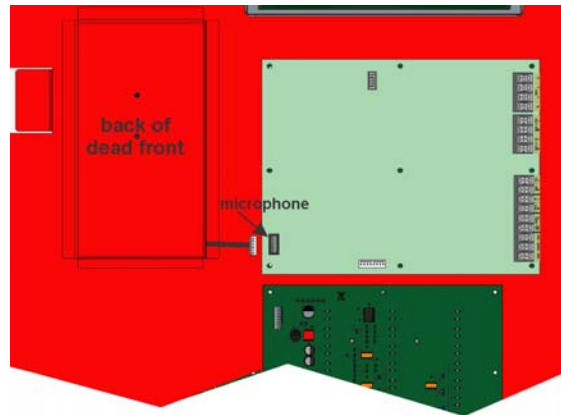

Figure 7 Microphone Cord Inserted Through the Dead Front Panel Hole
2. Insert the microphone cord through the hole at the bottom of the dead front panel. See Figure 7.